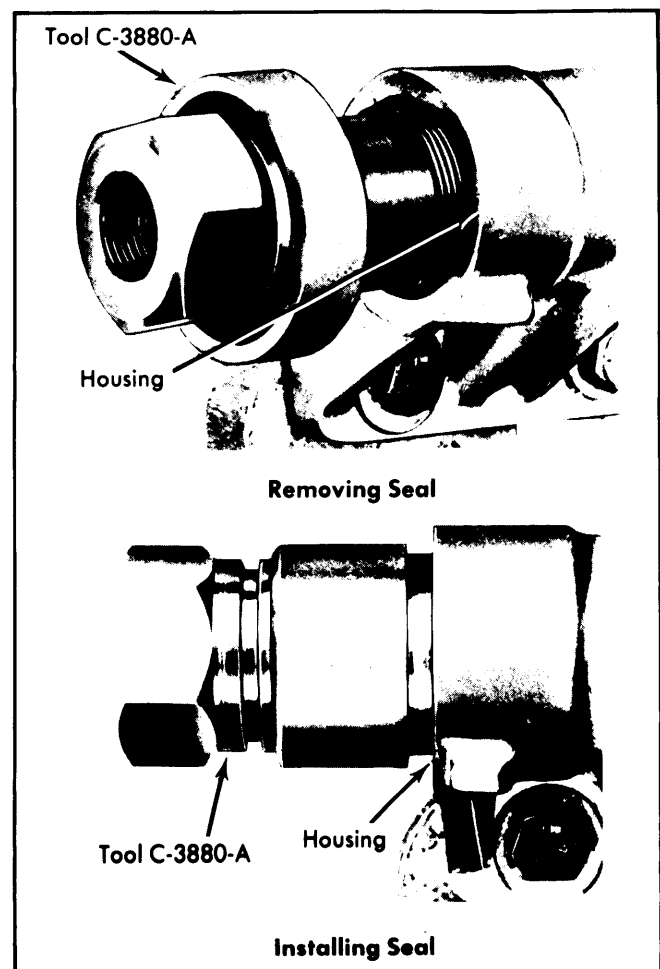

Fig. 7 Replacing the Sector Shaft Seal on Chrysler Models
2) Slide threaded adapter over end of sector shaft and install nut portion of a suitable tool. (See Fig. 7) Apply pressure on adapter with nut while screwing adapter into seal until it grips